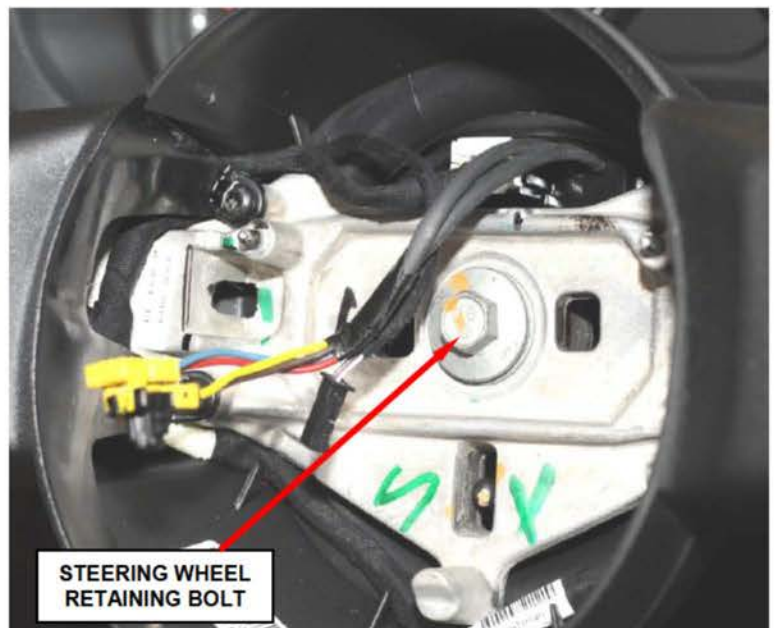

Figure 2 – Steering Wheel Retaining Bolt
5. Remove and discard the steering wheel retaining bolt from the steering shaft (Figure 2).
25. Install a new steering wheel retaining bolt and tighten the bolt to 40 ft. lbs. (54 N·m) (Figure 2).